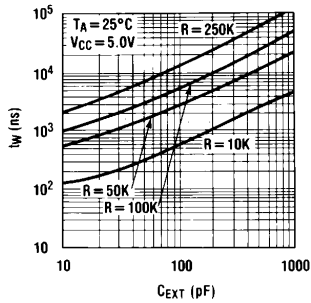

FIGURE 3
5. For $C_X < 1000$ pF see *Figure 3* for T_W vs C_X family curves with R_X as a parameter: